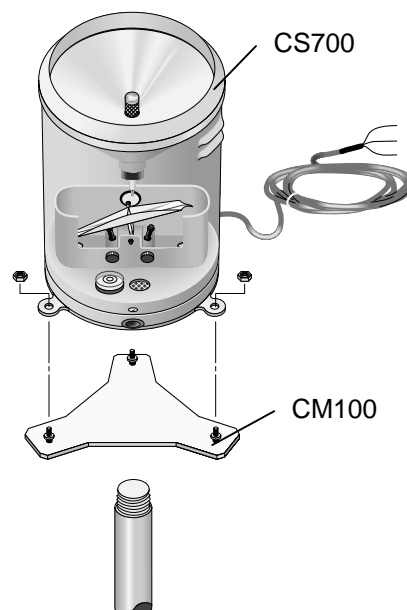

**FIGURE 4.13-1. TE525 Texas Electronics Rain Gage**
1. Mount the rain gage to a vertical pipe as shown in Figure 4.13-1. Mounting the gage directly to the tripod or tower is not recommended.